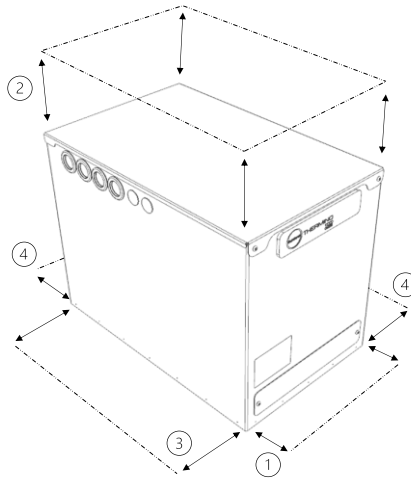

Figure 4 – Thermino ePlus Heat Battery Spatial Requirements
- Assess the location where the Heat Battery will be installed, for the spatial & clearance requirements of the Heat Battery (Figure 4, Table 5).